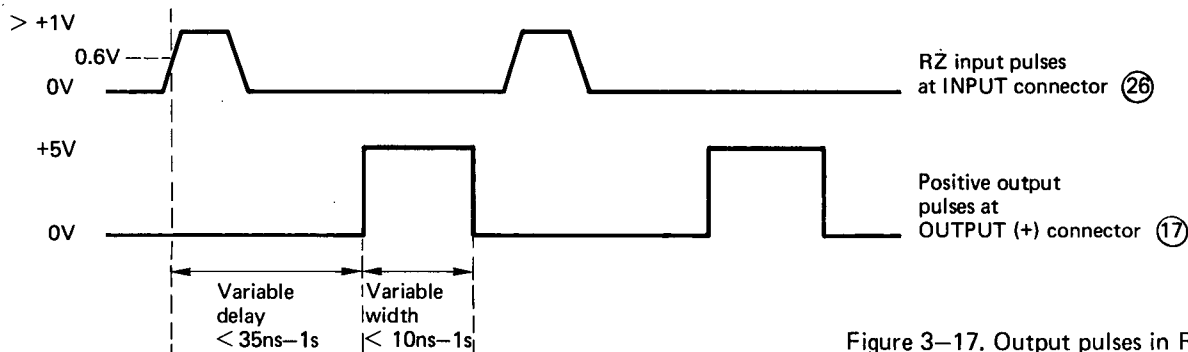

Figure 3-17. Output pulses in RZ mode
- b. Set the Mode Selector switch (25) to RZ.
a. Connect the external signal to the INPUT connector (26) on the rear panel of the 8013B.
3-43 The output pulses should appear at the OUTPUT (+) connector (17) as shown in Figure 3-17.